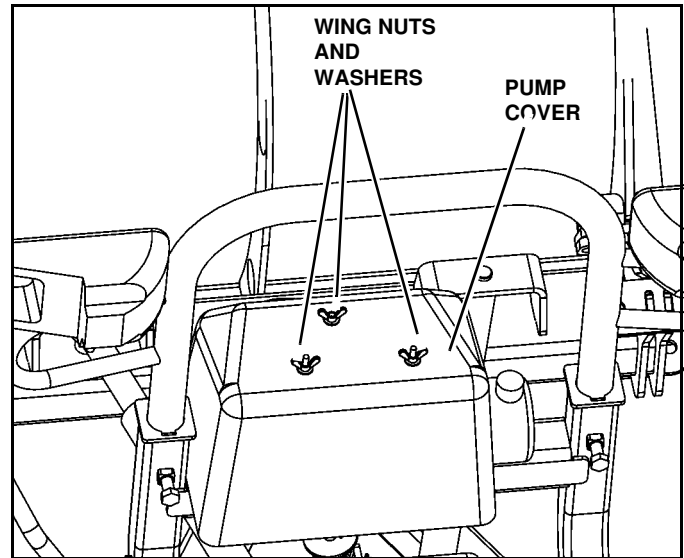

Figure 1-38
3. Remove three (3) wing nuts and washers from the cover. Remove the pump cover. (See Figure 1-38).